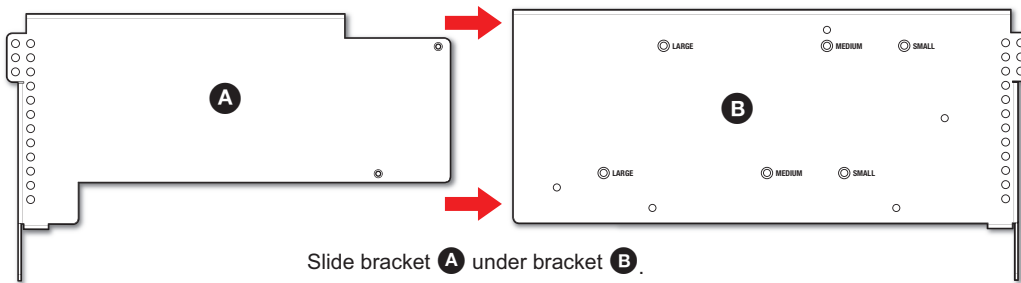
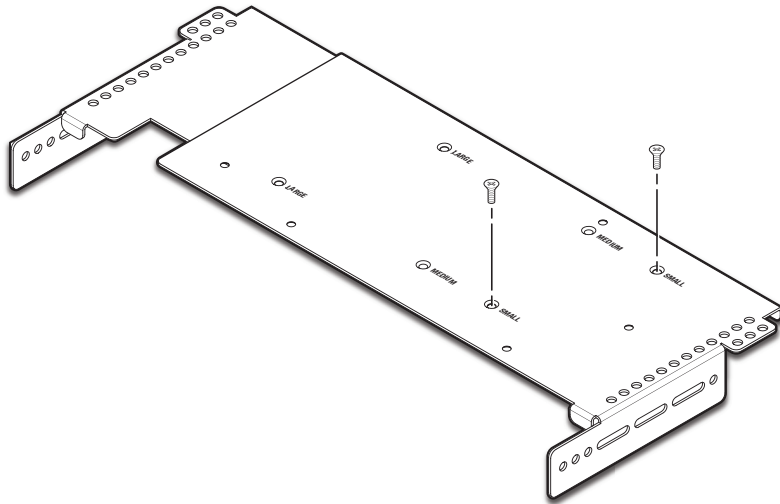

Figure 2. Slide the Short L-bracket under the Long L-bracket
Figure 3. Attach the Two L-brackets Together
2. Slide the short L-bracket **A** under the long L-bracket **B** until the two holes in **A** align with the appropriate two holes in **B** (labeled LARGE, MEDIUM, or SMALL, see figure 2).
3. Use two of the supplied #4-40 by 3/16 inch screws to attach the short L-bracket (see figure 2, A on the previous page) to the long bracket (B) via the pre-drilled alignment screw holes. In the example in figure 3, the screws are being inserted into the holes labeled **SMALL** for use with a 3-inch speaker.